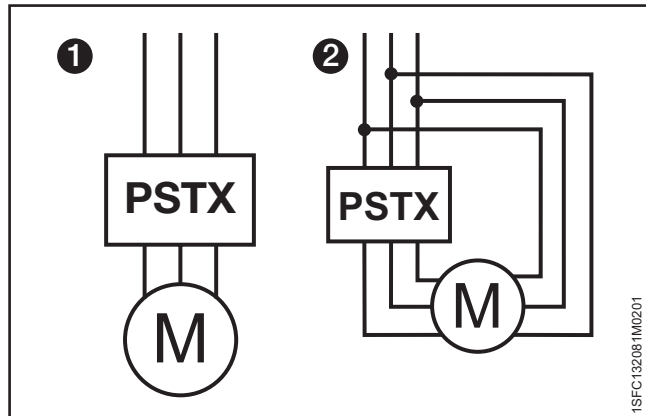
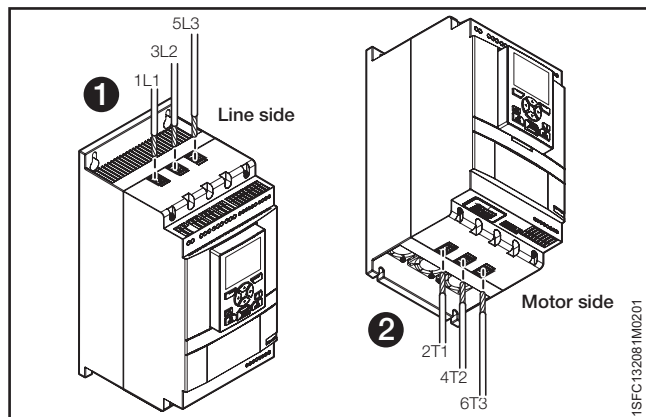

Figure 5.1
Figure 5.2
Softstarters PSTX30...PSTX1250 can be connected In Line, see **1 Figure 5.1**, and Inside Delta, see **2 Figure 5.1**. Use wire connection for PSTX30...105 see **Figure 5.2**. Terminal connection for PSTX142...1250 see **Figure 5.3**.
- Connect the line side to terminals 1L1, 3L2, 5L3, see **1 in Figure 5.2 and Figure 5.3**.
- Connect the motor to terminals 2T1, 4T2, 6T3 on the motor side, see **2 in Figure 5.2 and Figure 5.3**.